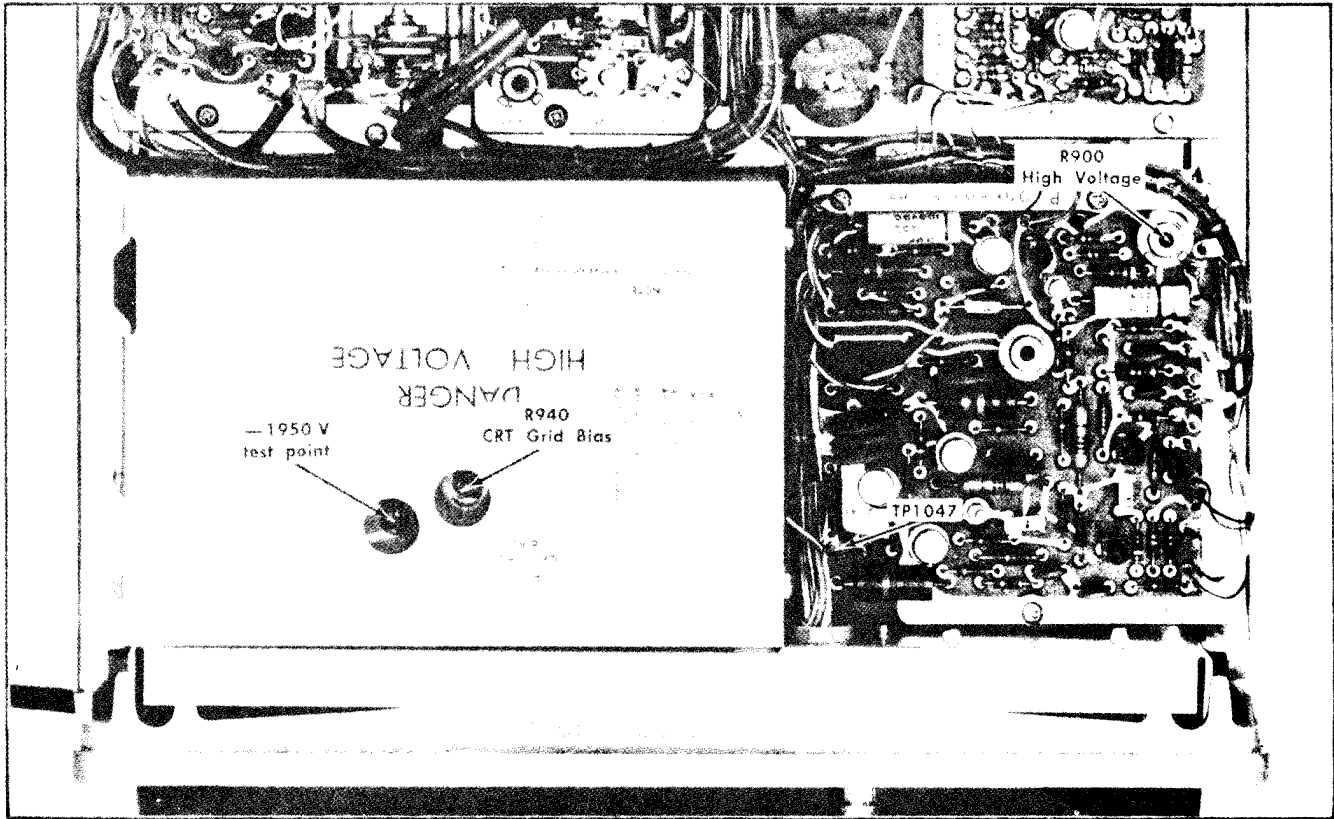

Fig. 6-6. Location of high-voltage adjustments and test points (bottom).
4. Adjust High-Voltage supply and Check Regulation ❶
- a. Connect the DC voltmeter (use the precision 2 kV divider) from the -1950 V test point (see Fig. 6-6) to chassis ground.
- c. ADJUST-High-Voltage adjustment, R900 (see Fig. 6-6), for -1950 volts.
5. Adjust CRT Grid Bias ❶
- a. Connect the precision DC voltmeter from TP1047 (Z Axis Amplifier board; see Fig. 6-6) to chassis ground.
- d. ADJUST-CRT Grid Bias adjustment, R940 (see Fig. 6-6), so the spot just disappears (it may be necessary to turn the horizontal POSITION control clockwise to bring the spot onto the viewing area).